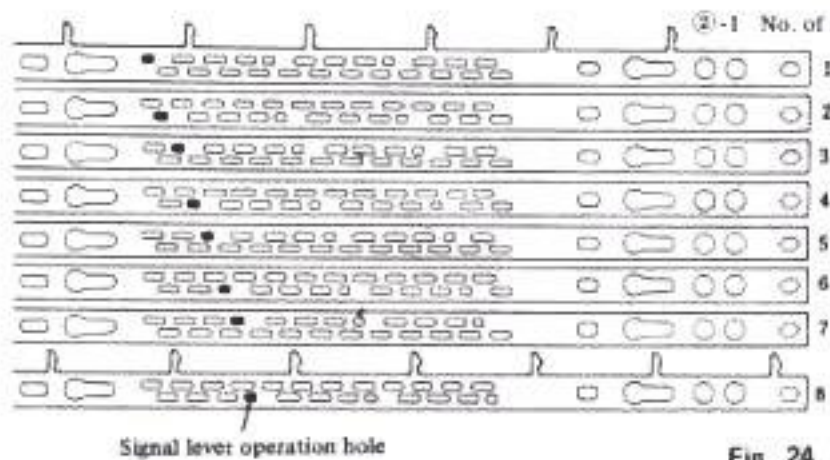

Fig. 24
* The card lock lever should change to three stages. (Fig. 24)